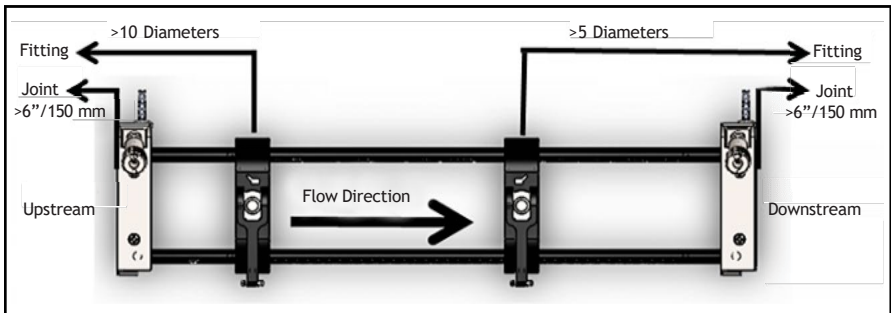

Figure 9: Selecting the Pipe Location
2. Select a clamp-on fixture mounting location on the pipeline which meets the following requirements (see Figure 9 below):